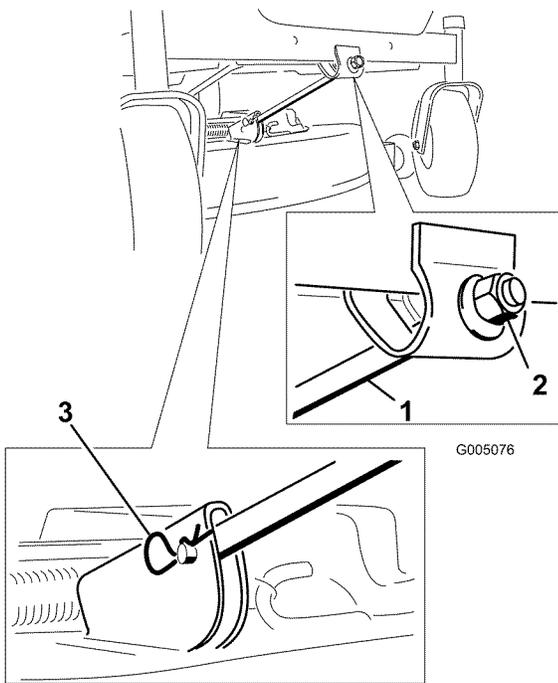

Figure 52
4. Remove the hairpin cotter and clevis pin from the front support rod (Figure 52). Carefully lower the front of the mower deck to the ground.
- Attach the front support rod to the mower deck with the clevis pin and hair pin cotter (Figure 52).